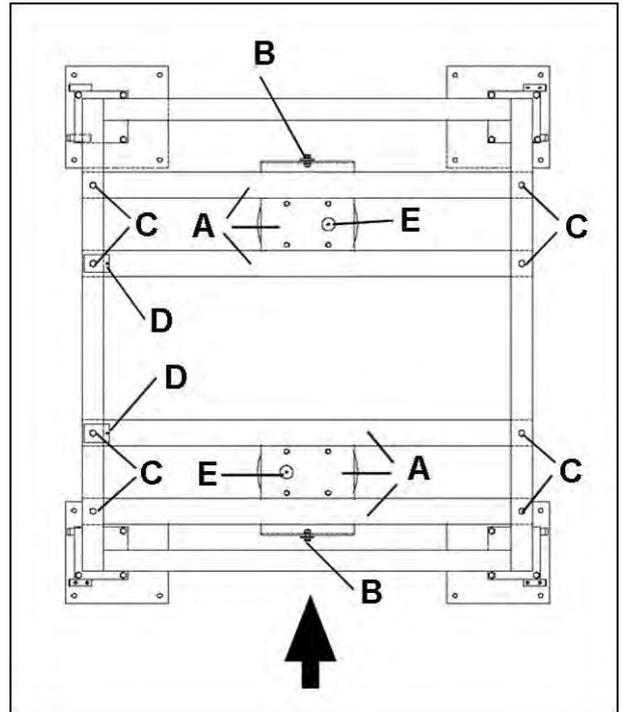

Fig. 4.6
5.5. Pneumatic actuators assembly (Figure 4.6)